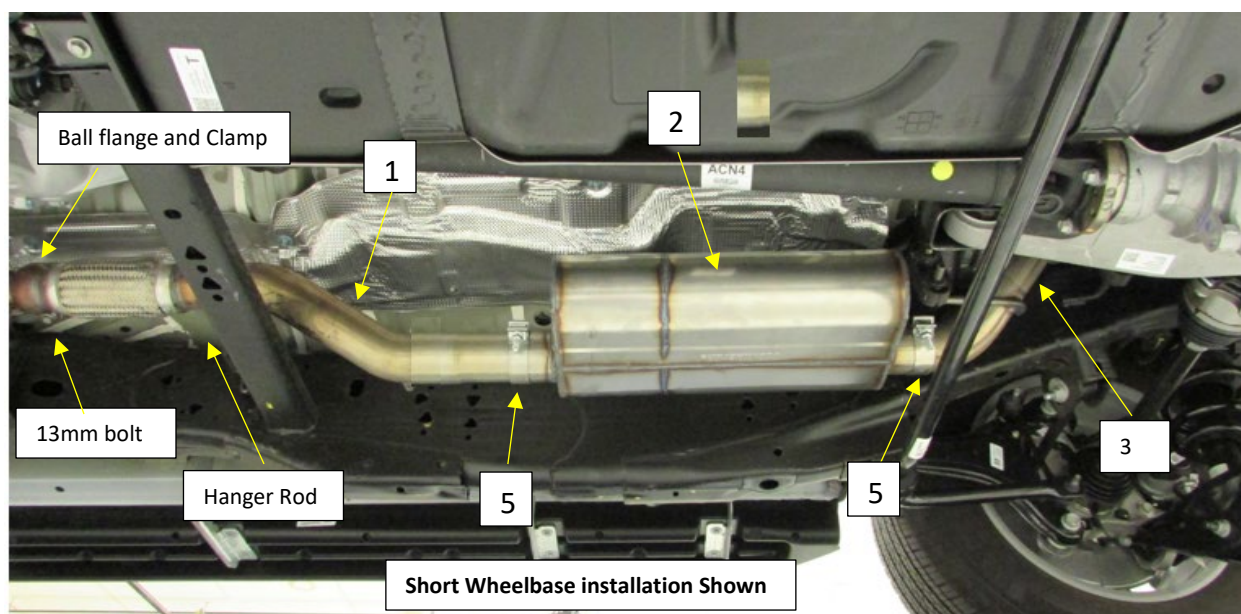

Figure. 5
2. Install the band clamp on to the flared inlet of the Flowmaster Muffler Inlet Pipe **(1)** with the tang at the bottom of the pipe, this will make easy access to the bolt. **Fig.5**
3. Install the Muffler Inlet Pipe **(1)** over the cross member and on to the ball connection of the OEM down Pipe from the Catalytic Converter. **Fig.5**
6. Install the Supplied 3" band clamp **(5)** on to the muffler inlet **(2)**. **Fig.5**
7. Install the muffler **(2)** on to the Muffler inlet pipe **(1)** approximately 2.5" **(1)**. **Support the muffler**. Tighten the clamp to allow for adjustment. **Fig.5**
8. Install the supplied 3" band Clamp (5) on to the muffler outlet. **Fig.5/6**
9. Install the over axle pipe (3) from the muffler side, over the axle and across to the Right-side frame rail. **Fig.5/6**